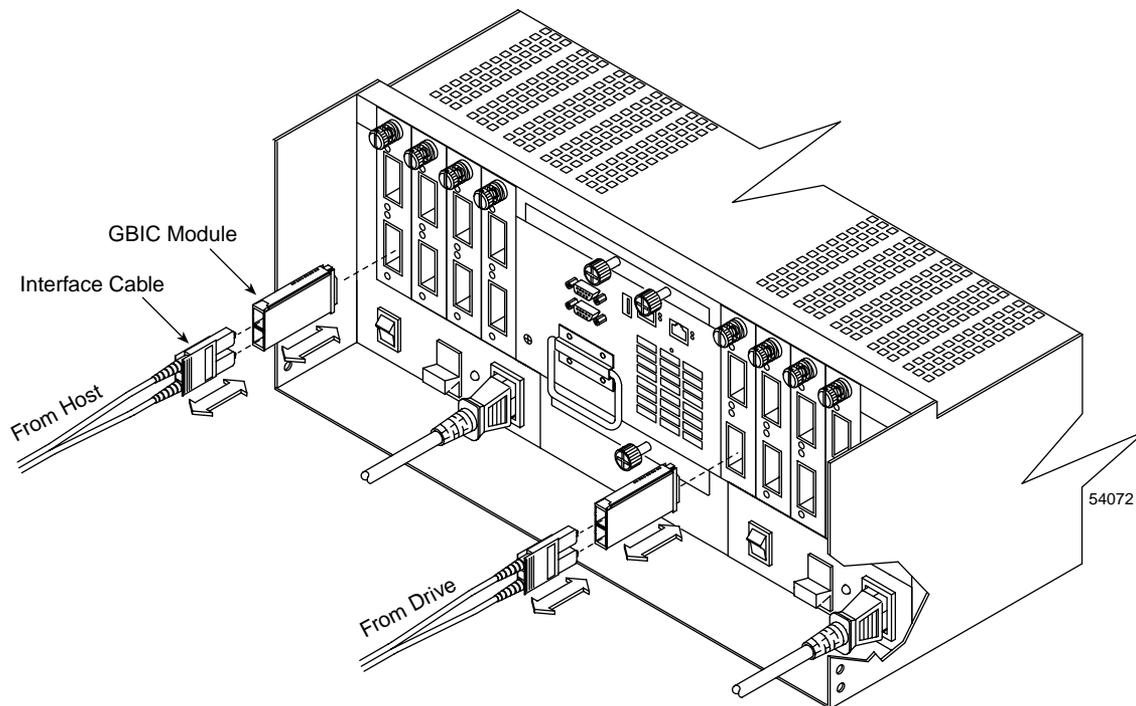

Figure 4-13 Removing and Installing a GBIC Module
3. Remove the interface cables from the failed GBIC module (Figure 4-13).
4. Remove the failed GBIC module from its minihub slot (Figure 4-13).
4. Remove the interface cables from the Fibre Channel connections on the failed minihub (Figure 4-13 on page 68).
5. Remove each GBIC module or SFP transceiver from the minihub slot (Figure 4-13 on page 68).